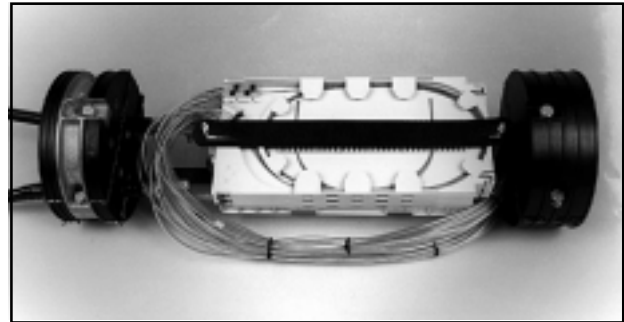

FIGURE 38 - ROUTING OF TRANSPORT TUBES AND SPLICE TRAY ORIENTATION
14.01 Route the Transport Tubes of unitube-type cables alongside the Transition Compartment and stack Splice Trays on the threaded studs. (Figure 38)